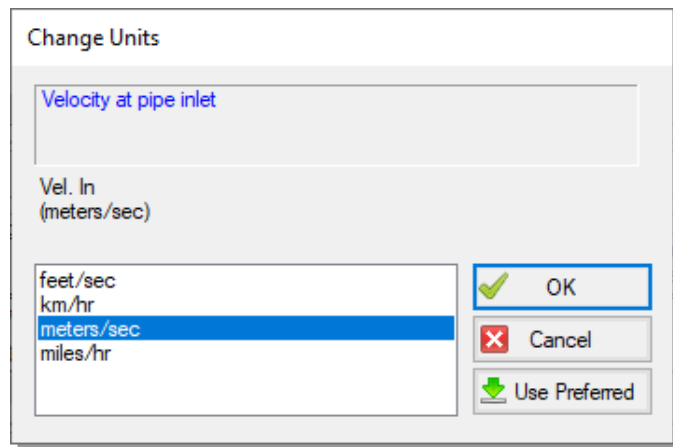

Figure 2.18 The Change Units window is opened from the Output window tables by double-clicking the column header
- **Lastly, double-click the column header** for "Vel. In" in the Output window in the Pipes table. This will open a window in which you can change the units once again if you prefer (see Figure 2.18). These changes are extended to the Output Control parameter data you have previously set.